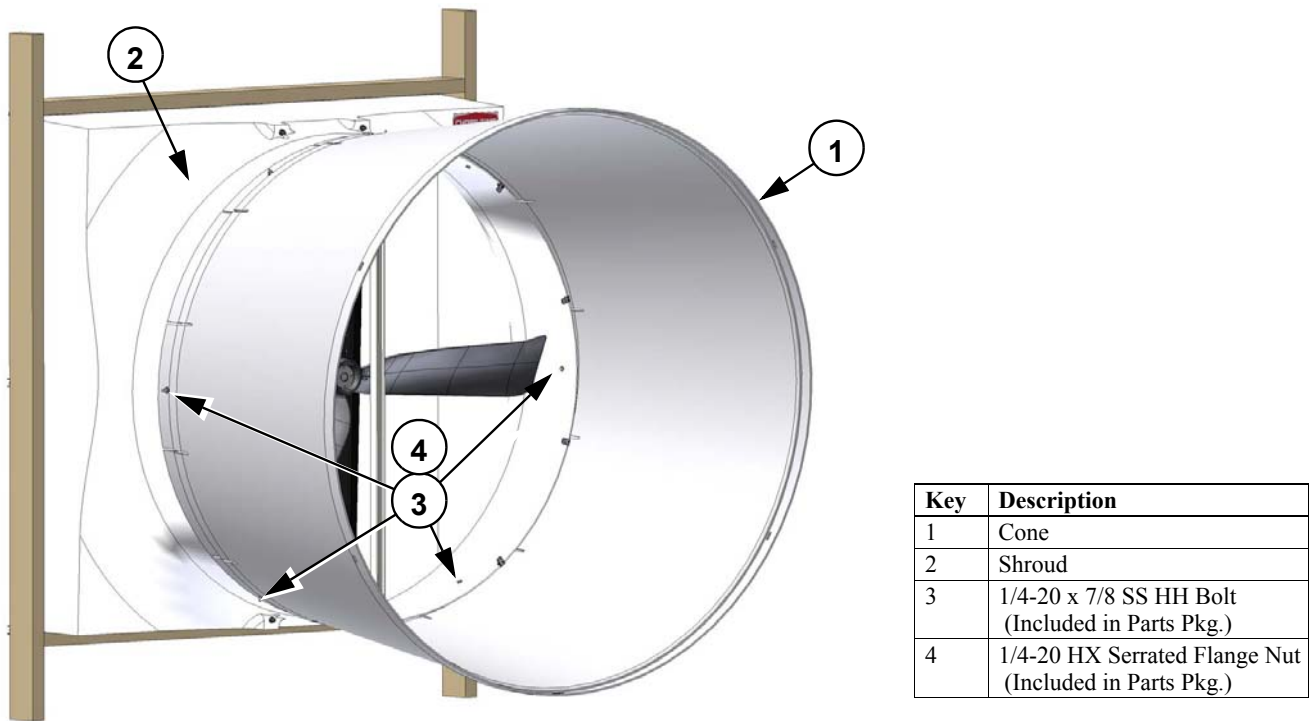

Figure 7. Attaching Cone
Finish attaching the Cone to the Fan Shroud with (4) 1/4-20 x 7/8 Bolts and Flange Nuts in the (4) remaining holes pre-drilled in the Cone (**Figure 7 below**).